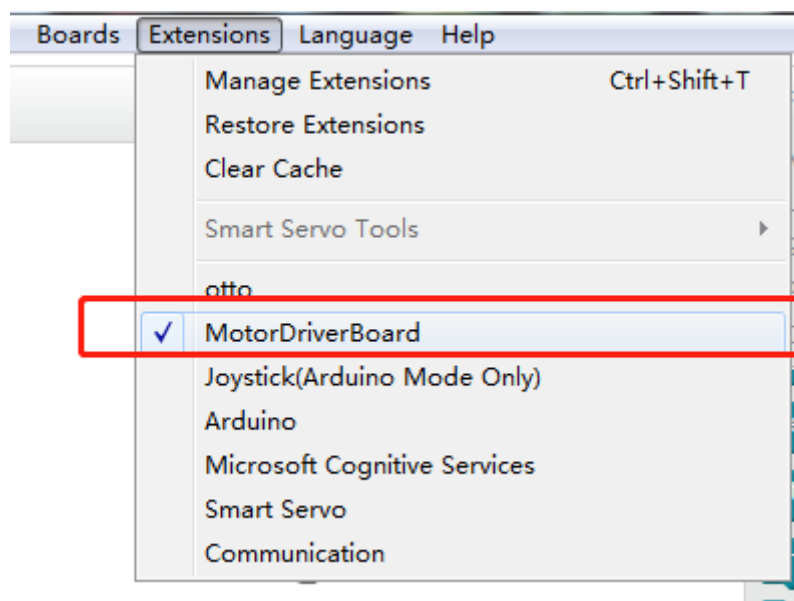

Figure 2-5
6) Click “Extension”, select “MotorDriverBoard”, and then click “Script → Robot Module”, the MotorDriverBoard block graphic programming block will be displayed in the building block area, as shown in Figure 2-5.